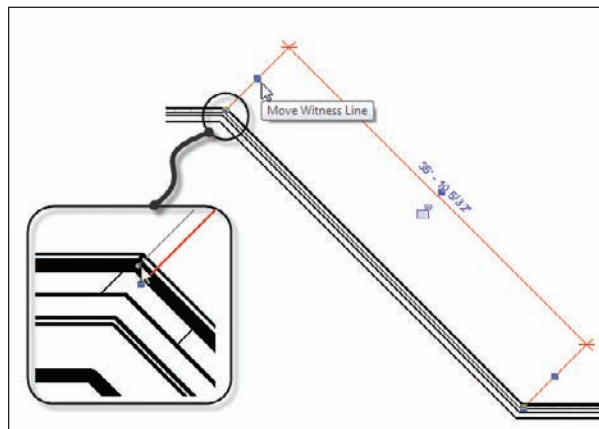

FIGURE 5.12 Dragging the witness lines grip
2. On the left side of the dimension, pick and hold the grip in the middle of the dimension line, as shown in Figure 5.12.
3. Drag the blue grip to the outside face of the brick. You will know you are in the right spot because you will see a small dot appear, as shown in the magnified segment of Figure 5.12.